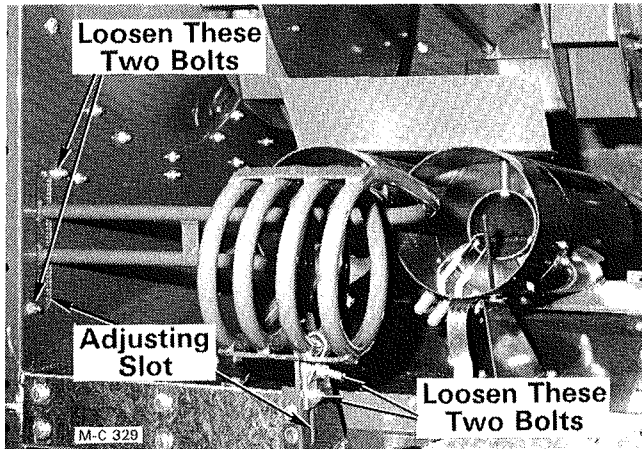

Figure 13 - LP Gas Vaporizer Coil
- E. Go into the plenum chamber and move the coil closer to or away from the flame, see Figure 13.